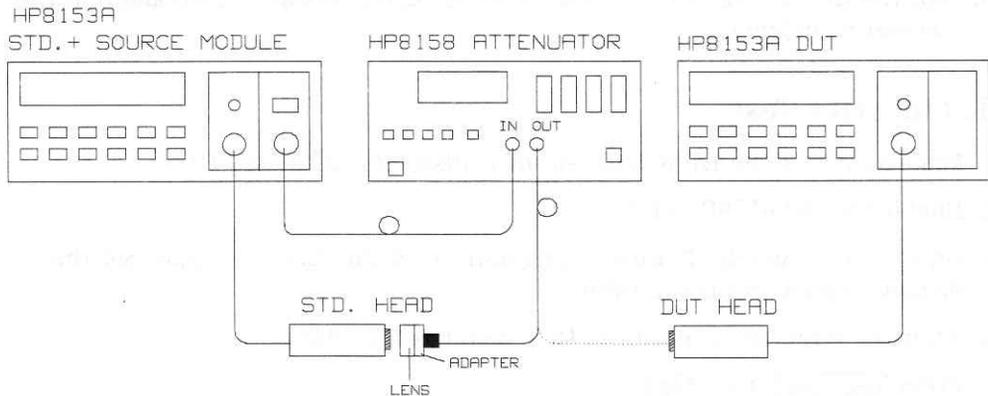

Figure D-1. Accuracy Test Set-Up
2. Connect the equipment as shown in Figure D-1. Ensure that the cables to and from the Attenuator are fixed on the table and both optical heads are close together so that minimum cable movement is achieved when connecting the cable to the Standard or to the DUT Head.